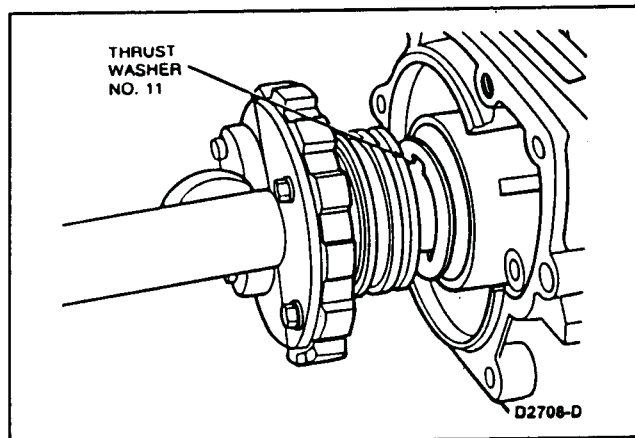

FIG. 14 Governor Removal
Refer to Fig. 14.
4. Remove the output shaft and the governor with thrust washer No. 11 (Fig. 14).